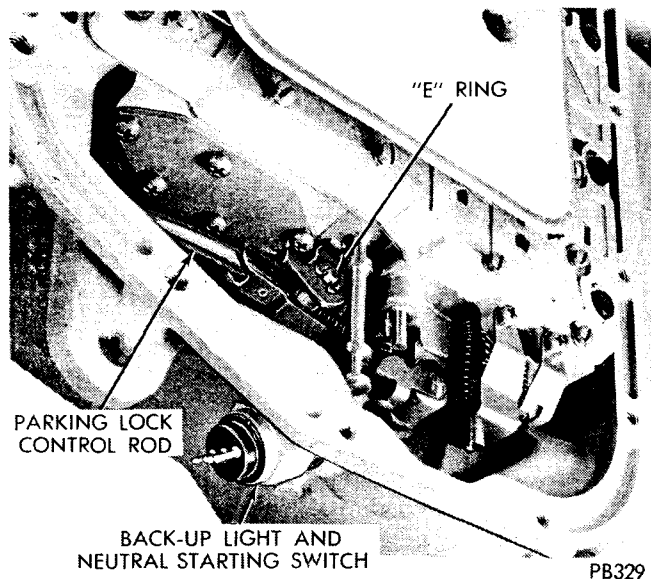

Fig. 43—Parking Lock Control Rod Retaining E-Ring
(2) Install accumulator piston in the transmission case.
(3) Position accumulator spring on the valve body.
(4) Place valve body manual lever in **LOW** position. Lift valve body into its approximate position, connect parking lock rod to manual lever and secure with E-clip. Position valve body in the case, install retaining bolts finger tight (Fig. 43).
(5) With neutral starting switch installed, place manual lever in the neutral position. Shift valve body, if necessary, to center neutral finger over the neutral switch plunger. Snug bolts down evenly, then tighten to 100 inch-pounds.
(6) Install gearshift lever and tighten clamp bolt. Check lever shaft for binding in the case by moving lever through all detent positions. If binding exists, loosen valve body bolts and re-align.